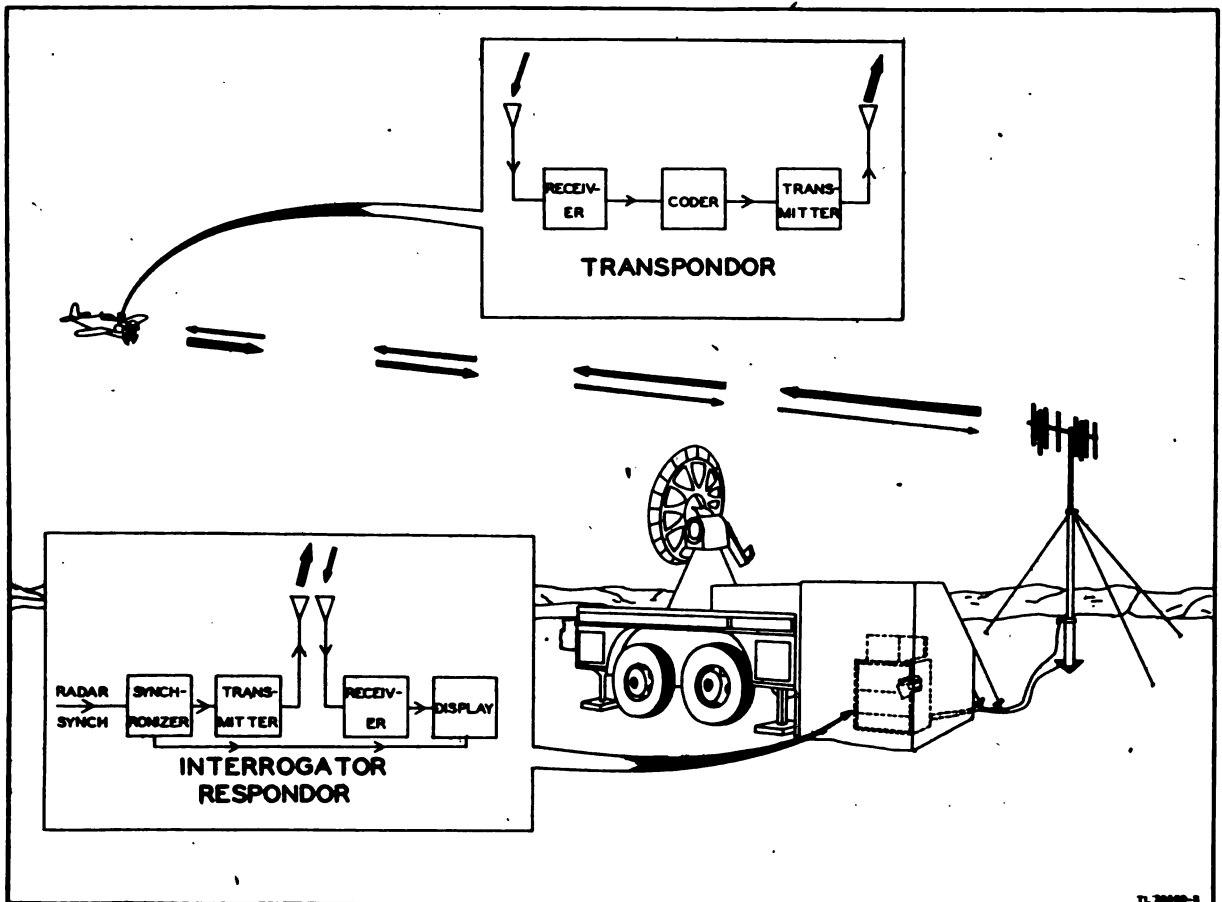

Figure 3. IFF, block diagram.
**a. Description.** The complete Mark III IFF system consists of two separate units (fig. 3): the ground unit, called the interrogator-responder, located near the search set; and the airborne equipment, called the transponder, located in the friendly aircraft. The radar operator challenges the unidentified aircraft by operating the interrogator-responder. As shown in figure 3, pulses of r-f (radio-frequency) energy are radiated toward the aircraft. If the aircraft is friendly, it contains a transponder; the interrogation pulses received by the transponder are amplified, altered, and